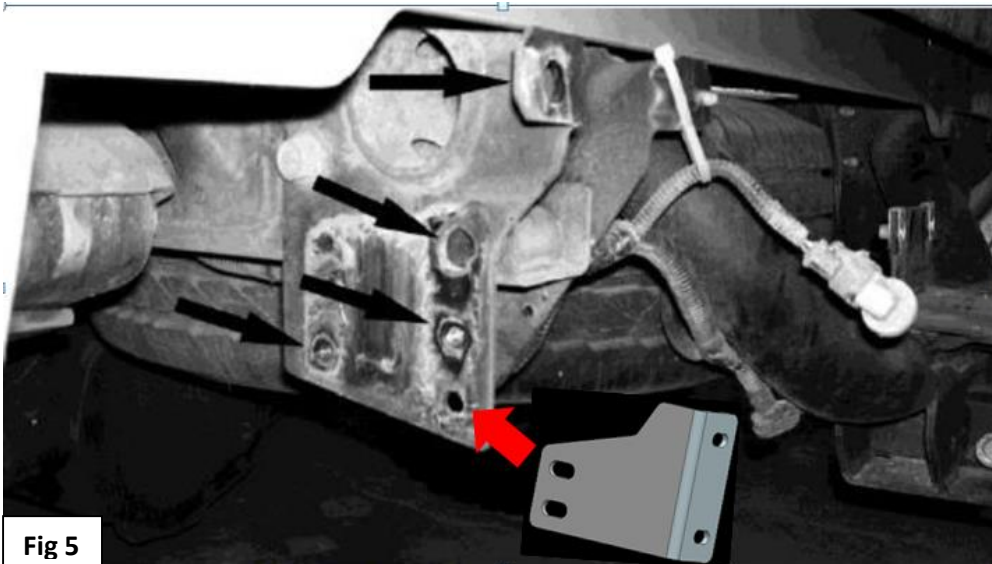

Fig 5
5. Connect the Mounting Brackets with the frame, do not fasten the hardware tightly (Fig 5).